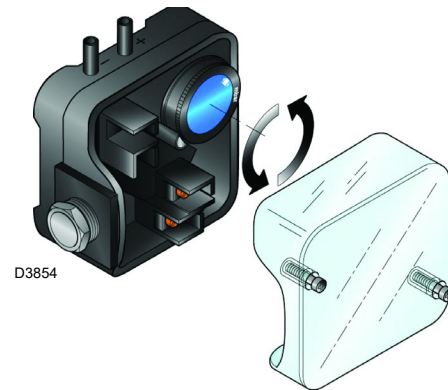

Fig. 48
- Adjust the air pressure switch (Fig. 48 at page 44) to the zero position of the scale.
Adjust the air pressure switch (Fig. 48) after having performed all other burner adjustments with the air pressure switch set to the start of the scale.